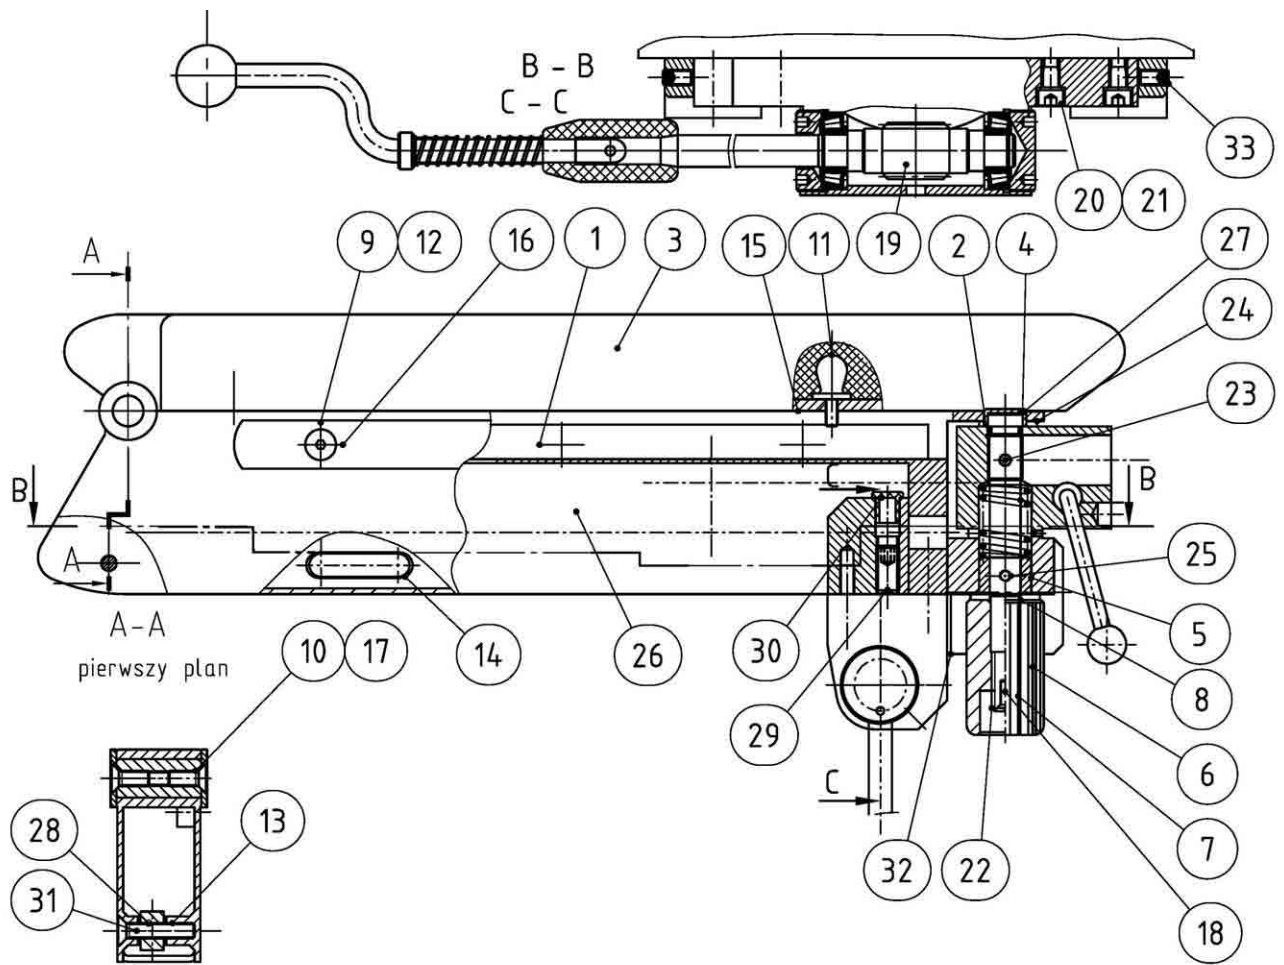

Fig.4 Set of seat
Leg section holder left (item 27, fig.4)
1. the spring (item 4) on the handle of the lock (item 2) and protect by putting the end of the spring in the opening in the axis of the lock.
2. Put the disk (item 3) on the handle of the lock (item 2) and screw the ball knob.
3. Place the assembled lock in the body (item 1).
4. Screw three M3 screws (item 5).
The screw in the right handle of the footrest (item 2, fig. 4) should be replaced in the same way.